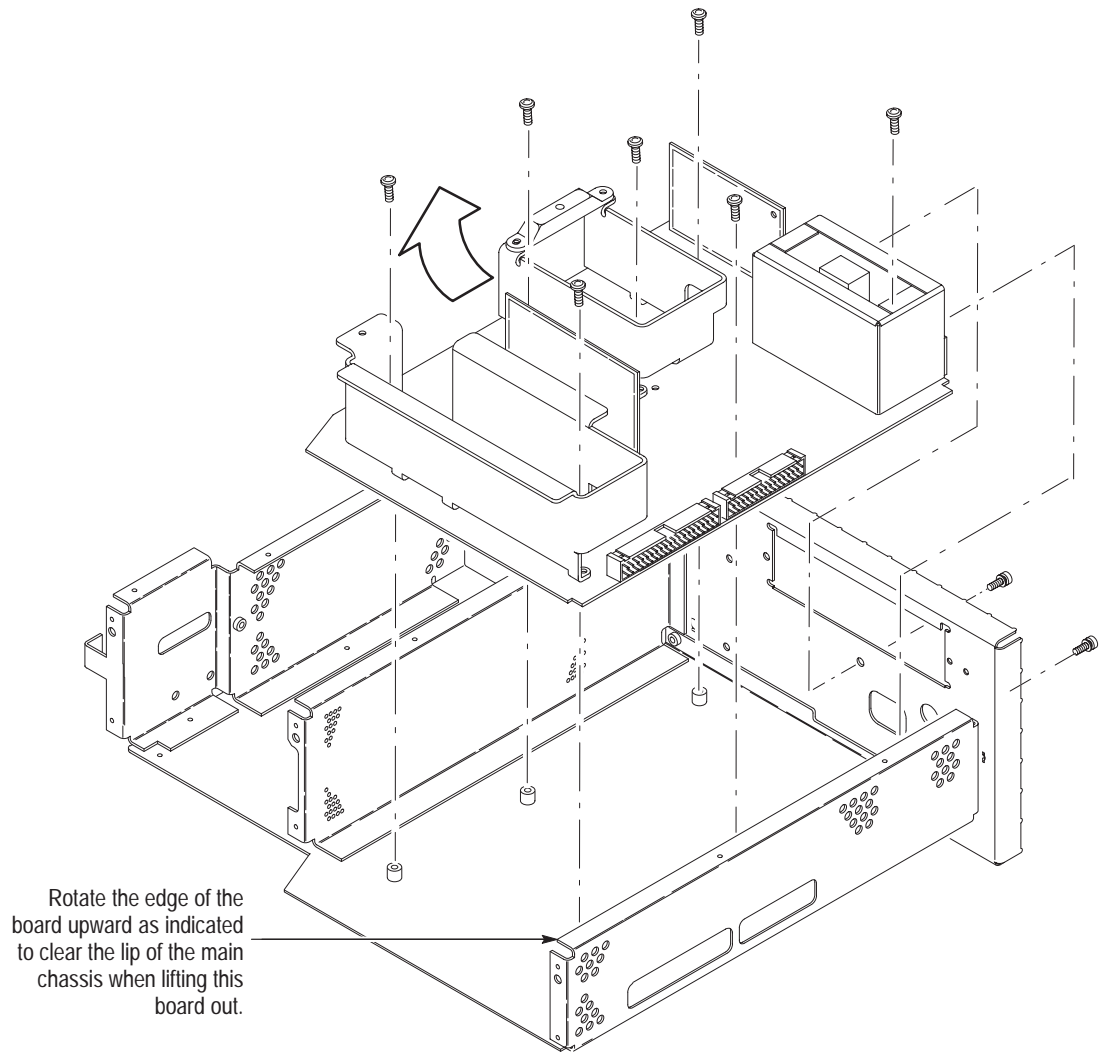

Figure 6–23: A16 Low voltage power supply removal
- c. Grasp the supply at the points indicated in Figure 6–23 and lift the board up out of the oscilloscope to complete removal.
1. *Assemble equipment and locate modules to be removed:* Have handy a screwdriver with a size T-15 Torx® tip (Items 1 and 2). Locate the modules to be removed in the locator diagram *Inner-Chassis Modules*, Figure 6–2, page 6–13.